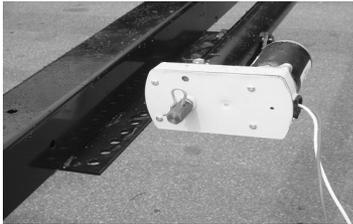

Fig. 3-Hex Head Crank Extension
6. Locate and remove the motor retention screw which can be found near the top of each vertical column (Fig. 3).
and ratchet fits on to allow the manual extension/retraction of the room (Fig. 3 and 4). Simply take the wrench, ratchet or drill with a nut driver and rotate it clockwise to retract and counterclockwise to extend slide-out.